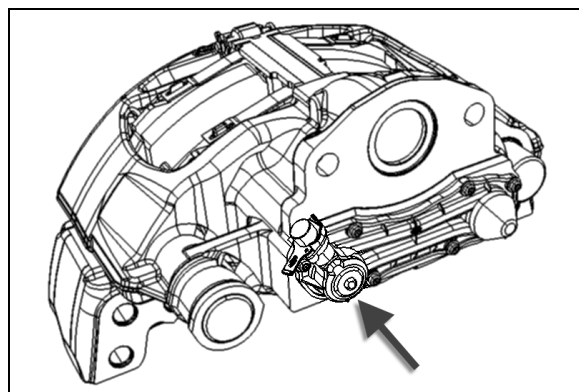

FIGURE 31: POTENTIOMETER
6. Push and pull caliper three times in axial direction to assess any existing air gap (see Figure 31). If no movement is possible, clean the disc brake and if necessary, replace the bearings. Once movement is obtained, continue as follows: